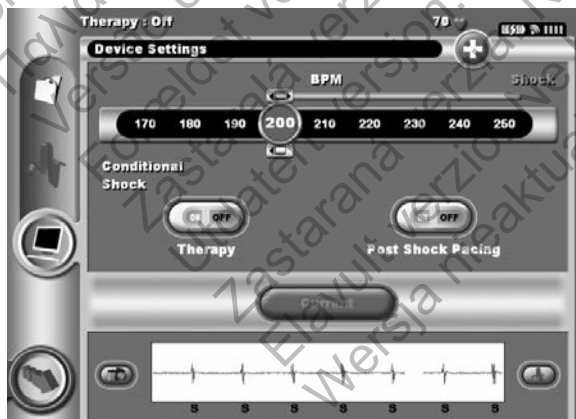

Figure 31: Device Settings screen
3. Select the Device Settings button on the Navigation Bar to display the Device Settings screen (Figure 31).